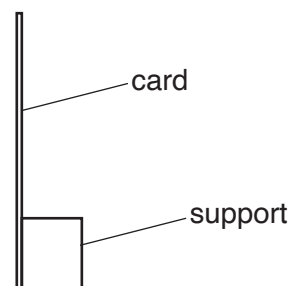

Fig. 3.2
- (iv) Plain white screen. A white sheet of stiff card approximately 150 mm × 150 mm, fixed to a wooden support, is suitable (see Fig. 3.2).